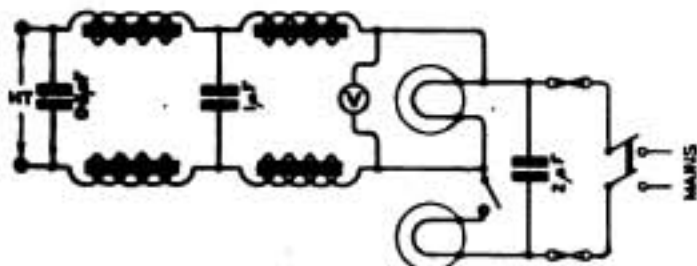

Fig. 1.
(1) **H.T. FROM DIRECT CURRENT MAINS.**—This is without doubt the easiest and offers several alternative methods, and the two given below are generally favoured. All D.C. supply will have one main earthed and in practically every case it will be the negative. Leads must be run from the mains to a convenient point for connecting to the apparatus and should terminate on a double pole switch, followed by 1 amp. fuses (Fig. 1).